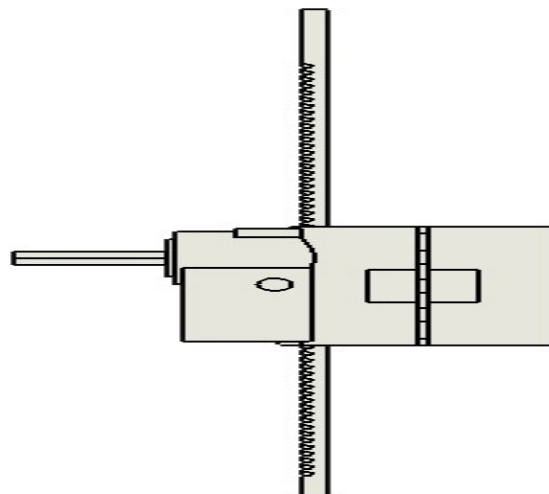

Figure 2
Step 3 Pick up the table and seat, the rack teeth facing outward, toothless large end up, along the rack groove wear to the seat support and then tighten. Figure 2